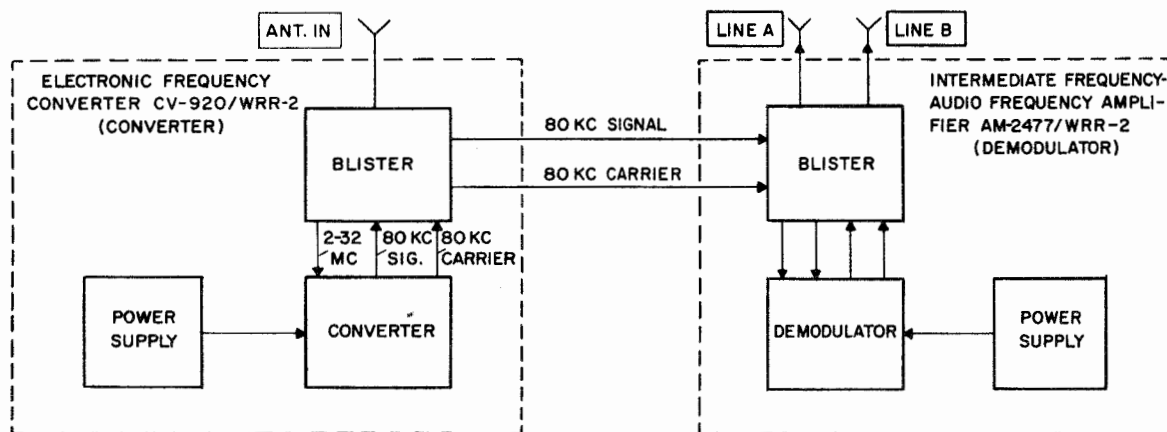

Figure 4-1. Radio Receiving Sets AN/WRR-2 and AN/FRR-59, Basic Block Diagram
- (1) A1 - On/off keyed continuous wave (CW)
- (2) A2 - On/off keyed tone-modulated continuous wave
- (3) A3 - Amplitude modulation (AM)
- (4) A9 - Single sideband
- (5) F1 - Frequency-shift teletype
- (6) F4 - Facsimile.
b. SYSTEM BLOCK DIAGRAM.—Figure 4-1 is a basic block diagram of the receiver. It shows the functional relationship between the two drawers which comprise the receiver. These are:
- (1) Electronic Frequency Converter CV-920/WRR-2 (converter)
- (2) Intermediate Frequency-Audio Frequency Amplifier AM-2477/WRR-2 (demodulator).